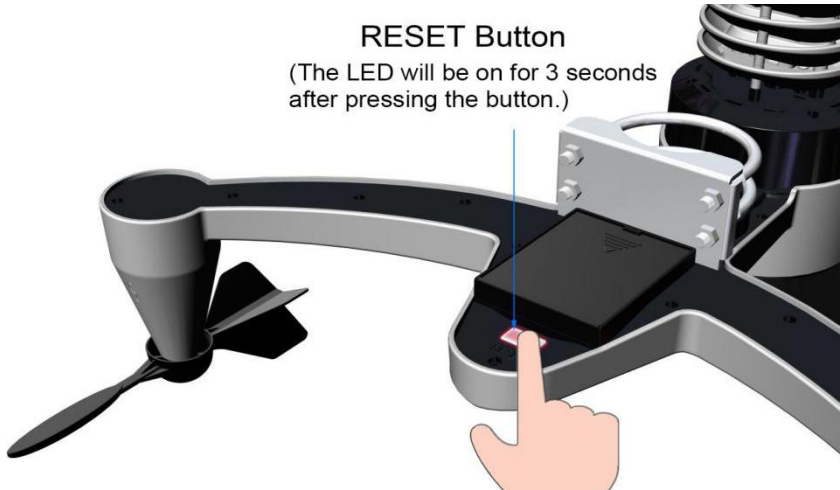

Figure 3
② Push upwards to open battery box.
**Note:** If the sensor does not power up after inserting the batteries, press the reset button as shown in Figure 3.